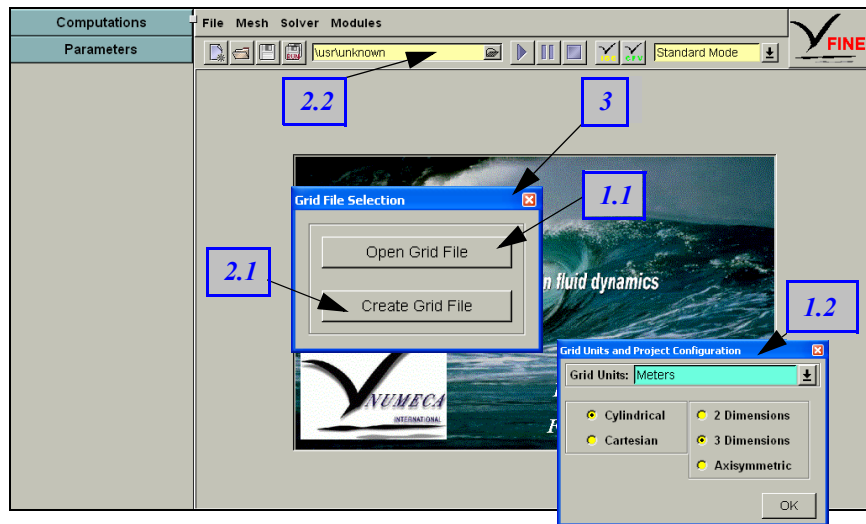

FIGURE 2.2.1-5 Grid File Selection window.
- When using the AutoBlade™ or FINE™/Design 3D modules it is not necessary to select a grid. In that case close the *Grid File Selection* window (Figure 2.2.1-5 - 3) and select **Modules/AutoBlade** or **Modules/Design 3D** menu to use these modules.